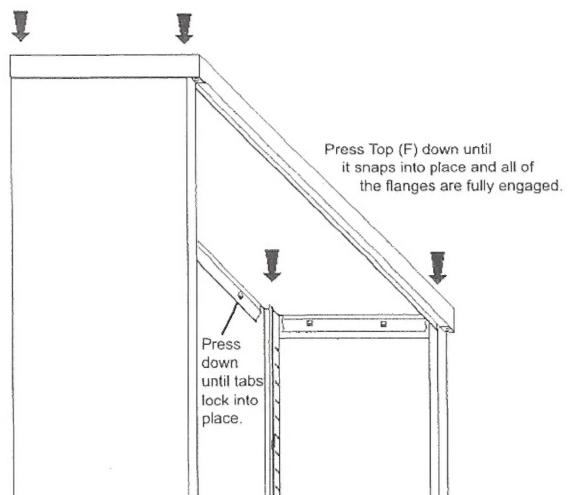

Fig. 4 - Push top down
D) Make sure the both of the side panels and each of the back panels are **partially** engaged in the flanges **before** pushing the Top (F) down fully.
E) Once the flanges are partially engaged, push the Top (F) down until it snaps into place and all the flanges are fully engaged. See Fig. 4.